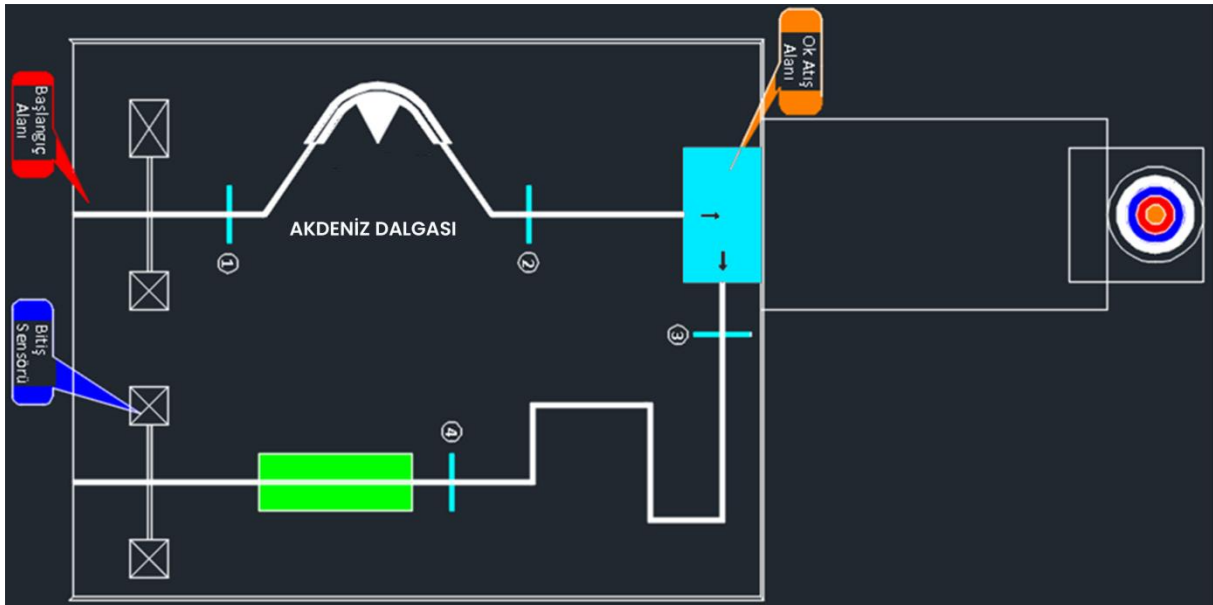

Figure 2. Final track
- In the final round, the robot will complete five 90-degree turns after the shot and reach the exit gate. (Figure 2)